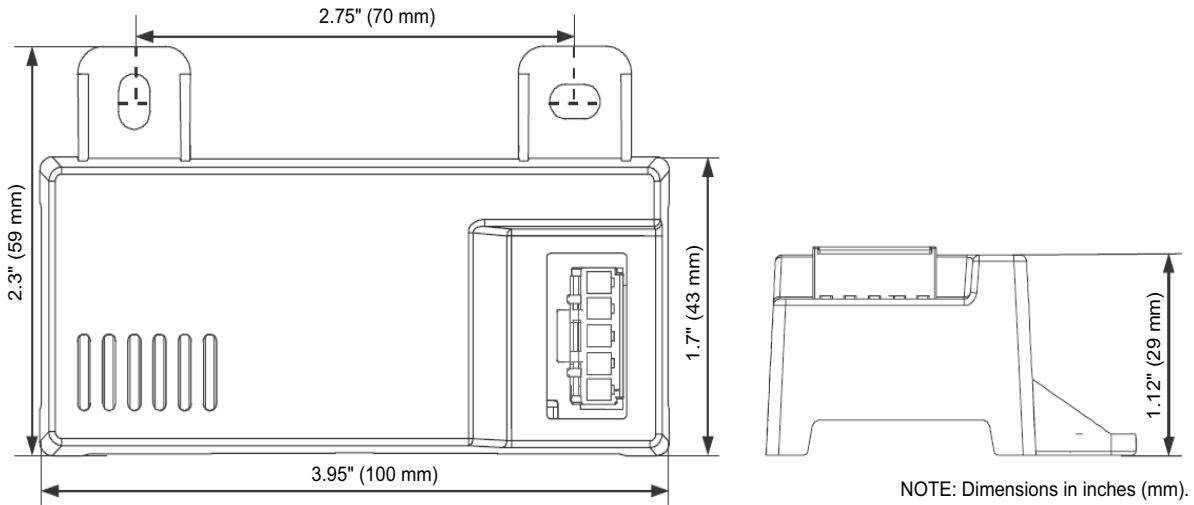
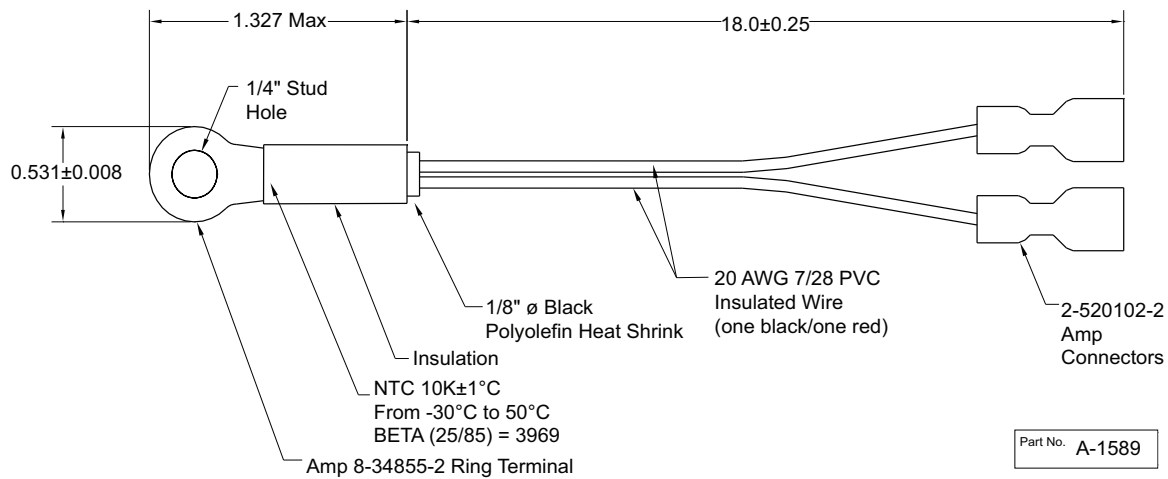
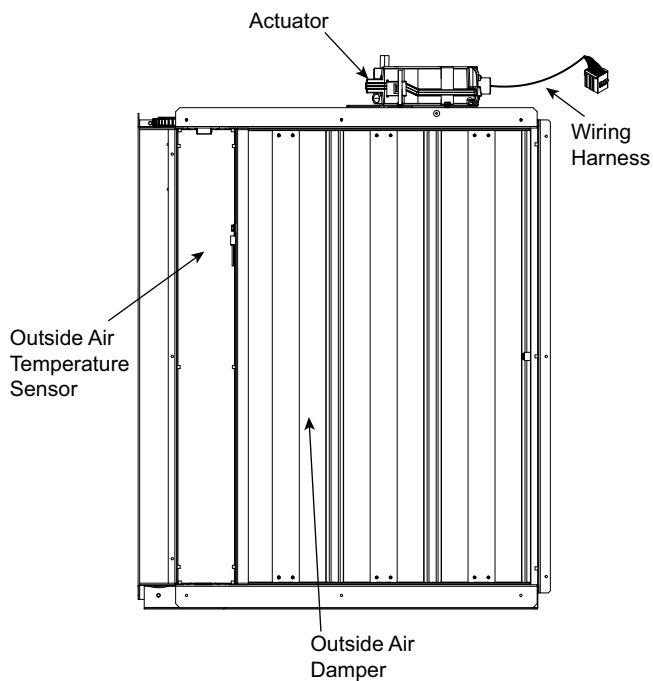

Fig. 63 – HH57LW001 Dimensional, Connection and Switching Information
Fig. 64 – HH79NZ039 Dry Bulb and Mixed Air Sensor Wiring
Fig. 65 – EconomizerONE Component Locations (CRECOMZR108A00 Shown)
When using the HH57LW001 enthalpy sensor (see Fig. 63) for outside air changeover, the existing HH79NZ039 dry bulb sensor (see Fig. 64) must be removed. The enthalpy sensor will be mounted in the same location as the dry bulb sensor (see Fig. 65). When the enthalpy sensor's OA (Outside Air) temperature, enthalpy, and dew point are below their respective setpoints, the outside air can be used for free cooling. When any of these are above the setpoint, free cooling will not be available. Enthalpy setpoints are configurable and create an enthalpy boundary according to the user's input. For additional details, see Fig. 66-67 and Table 28.
The optional enthalpy control sensor (P/N: HH57LW001) communicates with the POL224 economizer controller using the 5-wire harness, 48TC005213. The HH57LW001 sensor can be used as a single outside air enthalpy, a differential return enthalpy, or a differential return temperature sensor. Refer to the base unit control wiring diagrams found earlier in this book to wire the HH57LW001 enthalpy sensor for each option. Use Fig. 63 and Table 30 on page 52 to locate the wiring terminals for each enthalpy control sensor.
Economizers are shipped standard with an HH79NZ039 outside air dry bulb sensor (see Fig. 64). System default setting (high temp limit) is 63°F (17°C) and has a range of 48°F to 80°F (9°C to 27°C). Sensor is factory installed on economizer.
If installing the optional HH57LW001 enthalpy sensor, the HH79NZ039 dry bulb outside air sensor must first be removed. Wire sensor to harness 48TC005213 and the (5) wires from the harness to the EconomizerONE harness in the return air chamber. Harness 48TC005213 has a 5-pin plug that connects directly to the HH57LW001 enthalpy sensor. Refer to the base unit control wiring diagrams earlier in this book for wiring connections. Refer to Fig. 63 and Table 30.